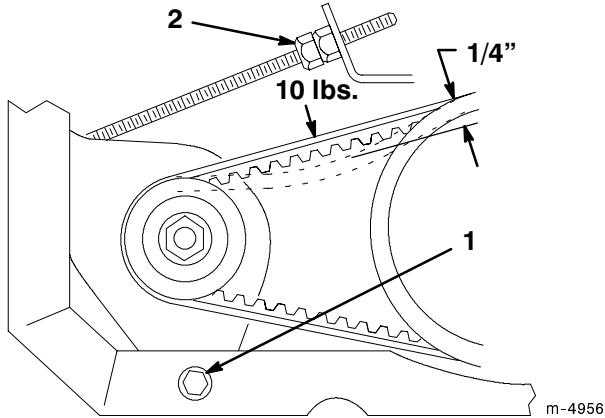

Figure 35
- Loosen the starter generator pivot bolt (Fig. 35).
- Adjust the jam nut on the starter rod (Fig. 35) until the belt flexes 1/4" with 10 lbs. of force.
- Tighten the starter generator pivot bolt (Fig. 35).